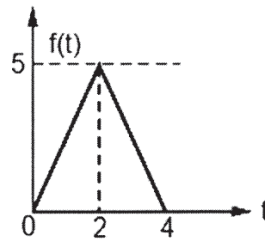

Fig. No. 2
c) Obtain $F(s)$ for the signal shown in fig. no. 2. Also determine its Laplace transform. [6]